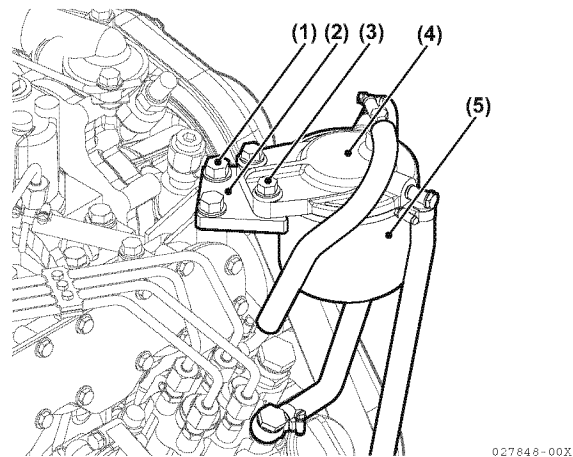

Figure 5-196
68. Install the fuel filter bracket on the intake manifold (**Figure 5-196**).
- 69. Install the fuel filter (Figure 5-196).